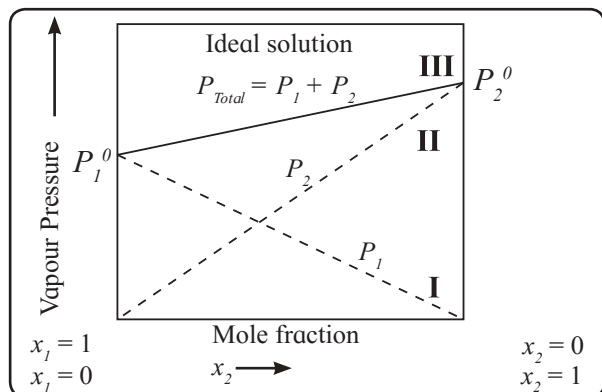

Fig. 2.2 : Variation of vapour pressure with mole fraction of solute
Because P₁⁰ and P₂⁰ are constants, a plot of P versus x₂ is a straight line as shown in the Fig 2.2. The figure also shows the plots of P₁ versus x₁ and P₂ versus x₂ according to the equations 2.2. These are straight lines passing through origin.
- The vapour pressure of ideal solution always lies between vapour pressures of pure components, as shown in Fig. 2.2.